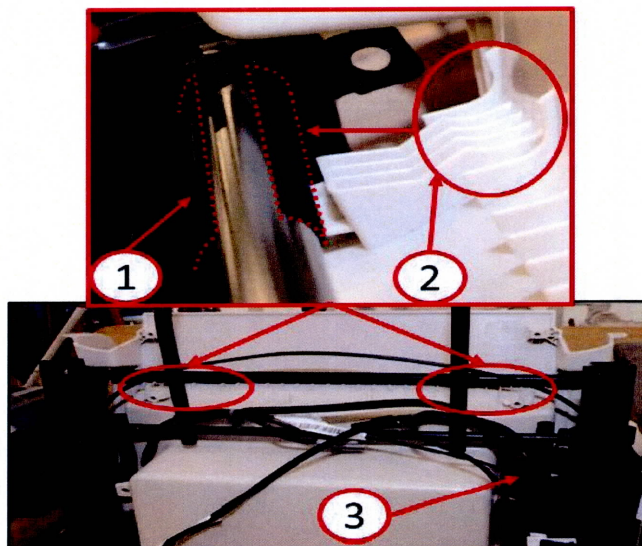

Fig. 2 Install Tape
3. Apply a strip of felt/flock tape (1) to the inboard side of the seat track cross frame bar in the areas indicated below to prevent the bar from making contact with the two side stand-offs (2) (Fig. 2).